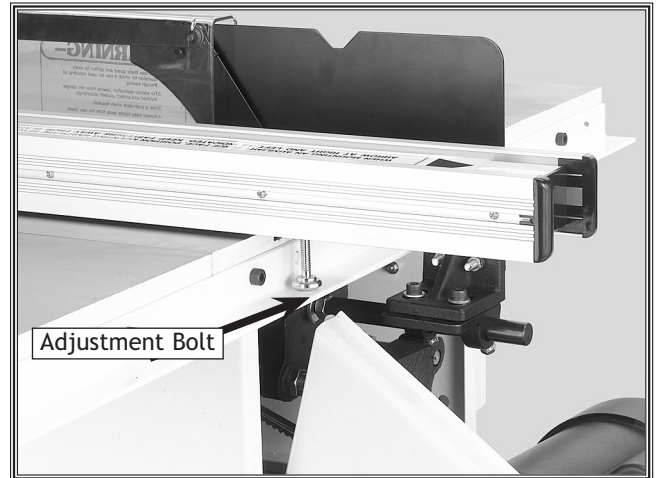

Figure 5. Adjustment bolt.
3. Check to see that the fence clears the table surface throughout its range of travel, and increase or decrease the height between the fence and table by adjusting the bolt shown in Figure 5.